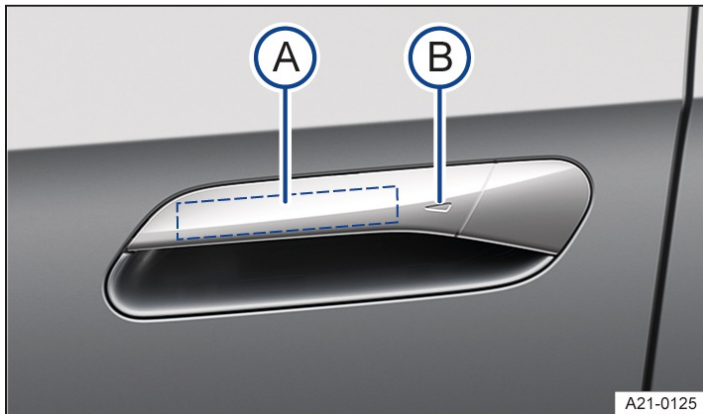

Fig. 2 In the door handle: sensors.
1. Touch the sensor on the inside of the door handle → Fig. 2 Ⓐ.
2. Touch the sensor on the outside of the door handle → Fig. 2 .